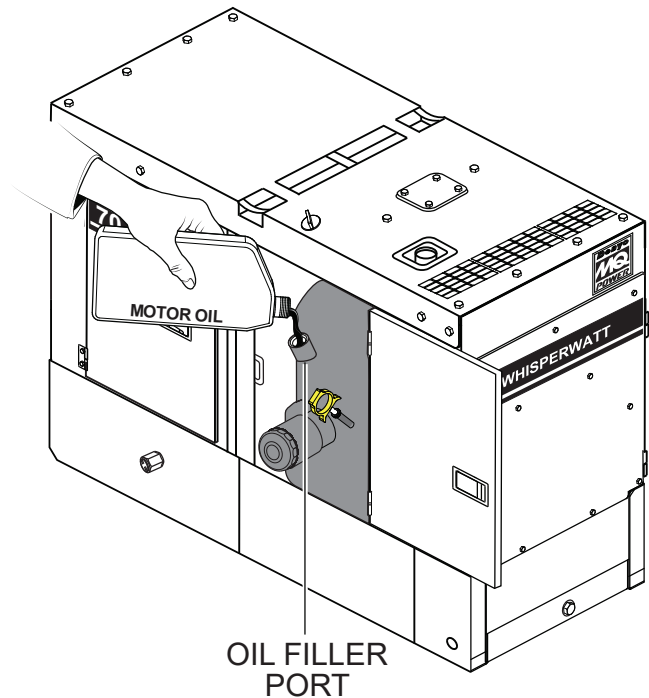

**Figure 23. Engine Oil Level**
3. Reinsert the dipstick, then remove the dipstick from its holder. Check the oil level shown on the dipstick (Figure 23).